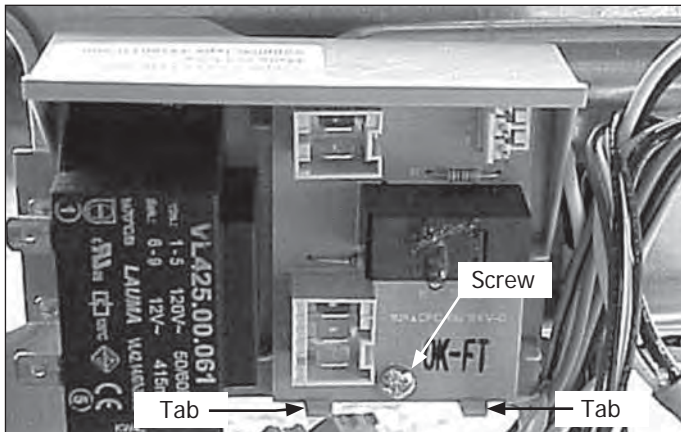

Figure 4-32.
3. Remove the screw holding the heater control board to its mounting bracket. (See Figure 4-32)